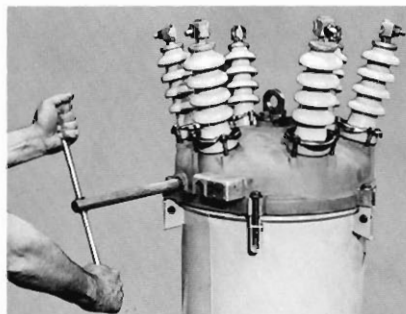

Figure 12. Closing recloser with manual closing tool (KA90R).
2. Insert the closing tool into the port and engage the pin on the main operating shaft (Figure 12).
9. Slowly close the recloser with the two-handle manual closing tool (Figure 12).